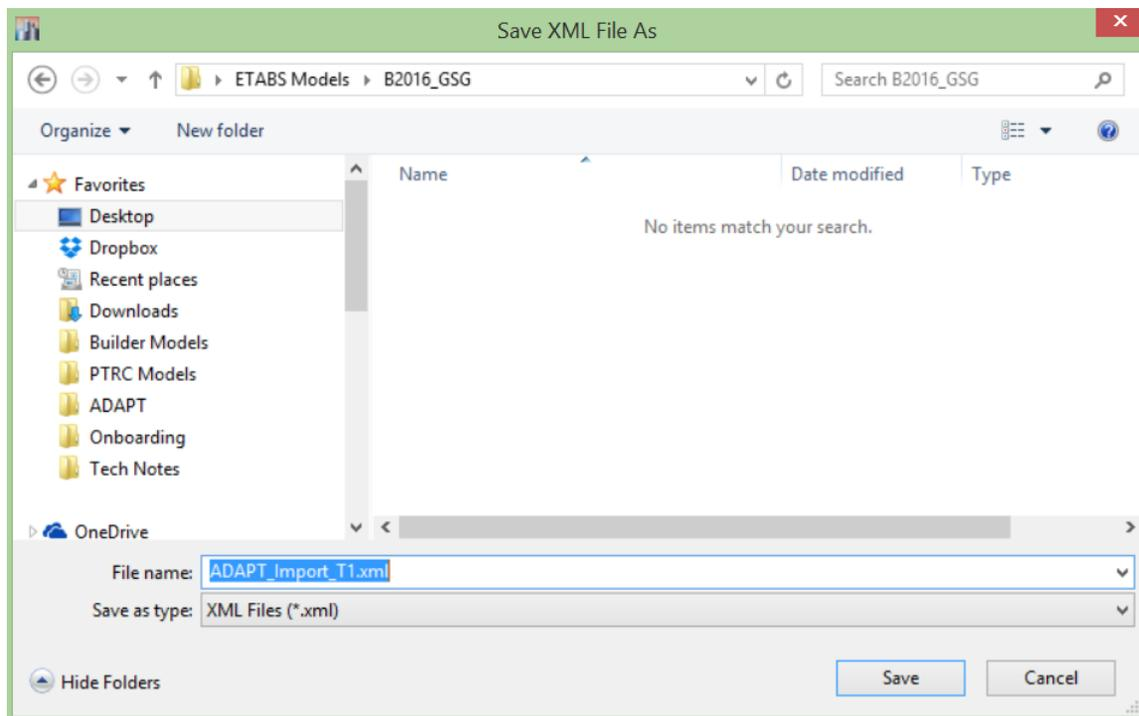

Figure 5 ETABS .XML File Save-As Dialogue Window
- In the *Save XML File As* dialogue box, select the location of the .XML file and name the file (FIGURE 5).